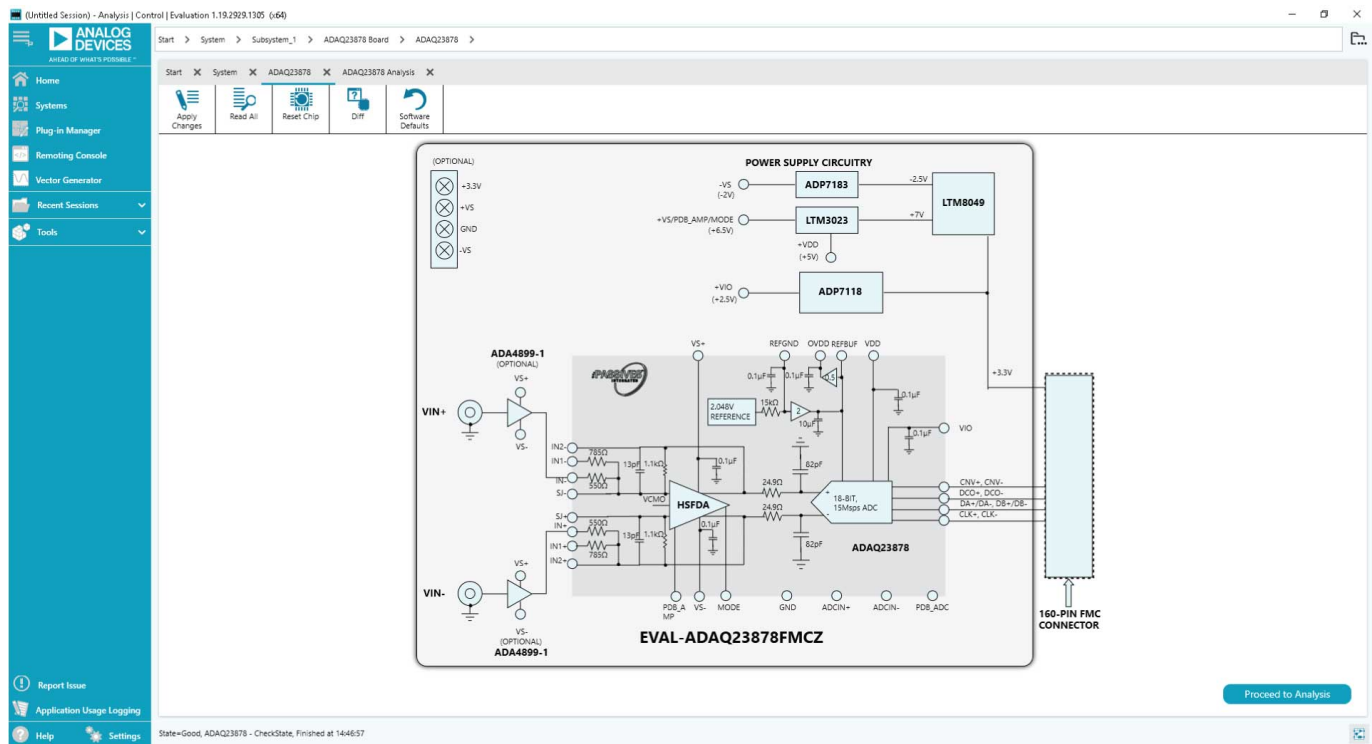

Figure 16. Chip View
4. Double click the **ADAQ23876** or **ADAQ23878** chip icon in the board view window to open the chip view window shown in Figure 16.